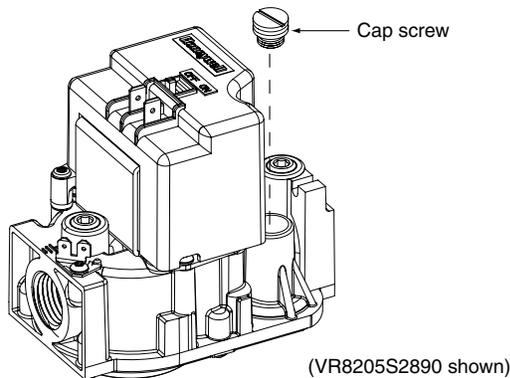

Figure 2. Cap Screw Removal
1. Remove the cap screw from the gas valve as shown in Figure 2.
- Single stage gas valve: Remove the cap screw from the top of the gas valve regulator. See Figure 2 (page 4) for VR8205S2890 or VR8215S1289 models.
- Using a screwdriver or Allen wrench (where appropriate), slowly turn the adjustment screw till the appropriate manifold pressure listed in Table 2 is achieved. See Figure 2 for VR8205S2890 or VR8215S1289 models.